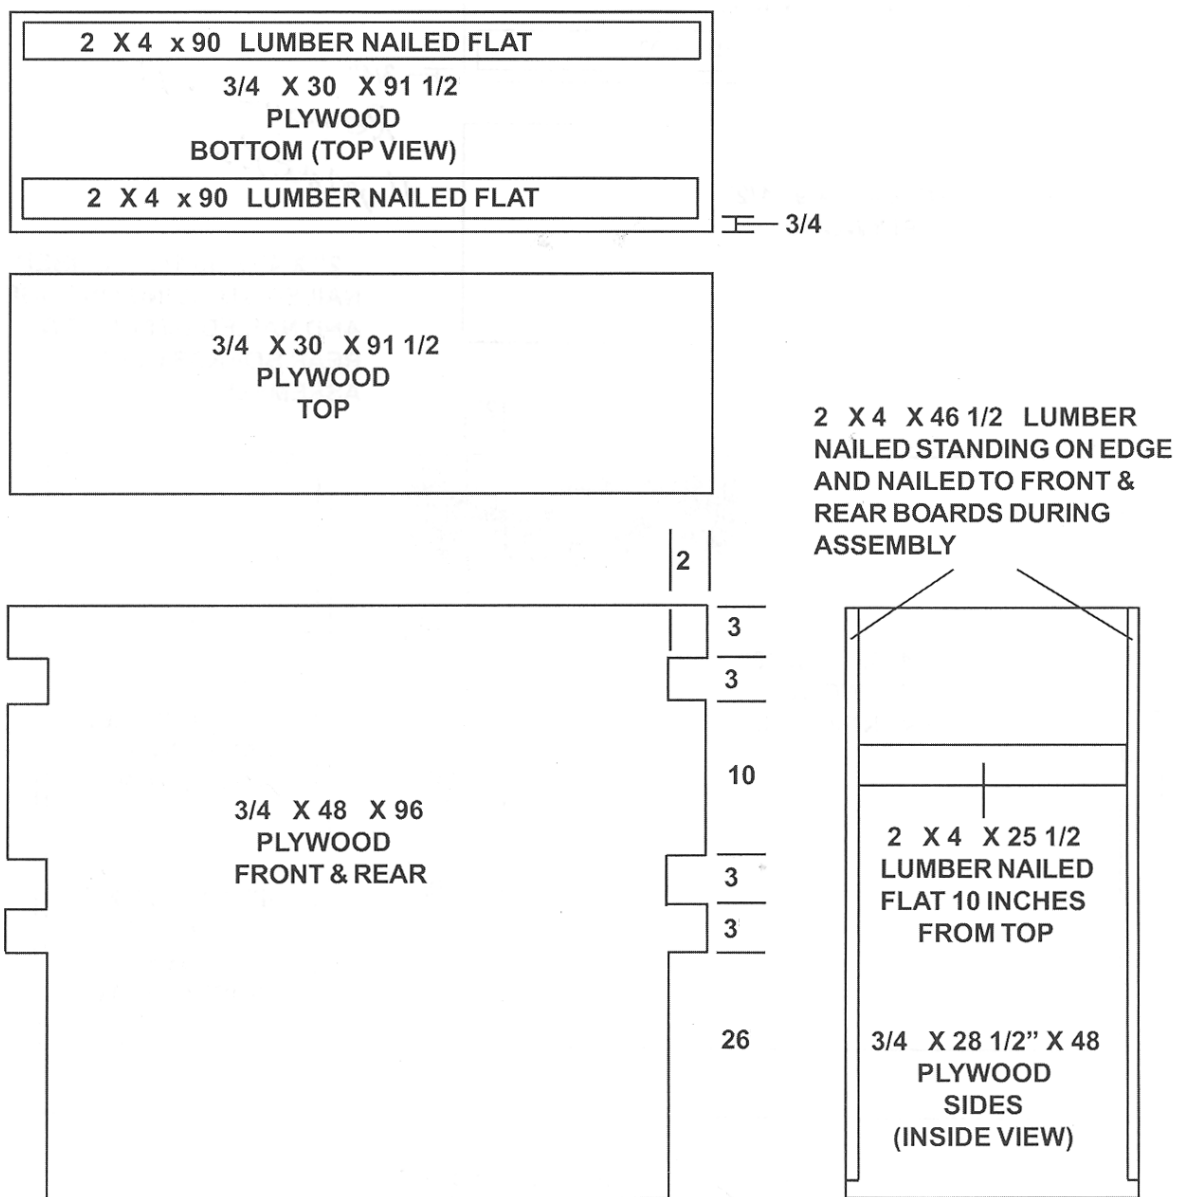

Figure 20-4. Front Equipment Box Built
20-5. Build the front and rear equipment boxes as shown in Figures 20-4 and 20-5.
- Build the front equipment box using 16-penny nails and as shown in Figure 20-4.